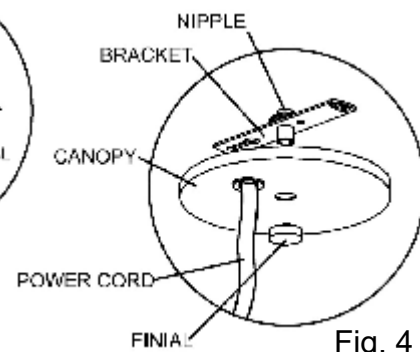

Fig. 4
5. Make appropriate wiring connections and attach the canopy to the junction box using the bracket / nipple / finial to proper secure the assembly. (Fig. 4).